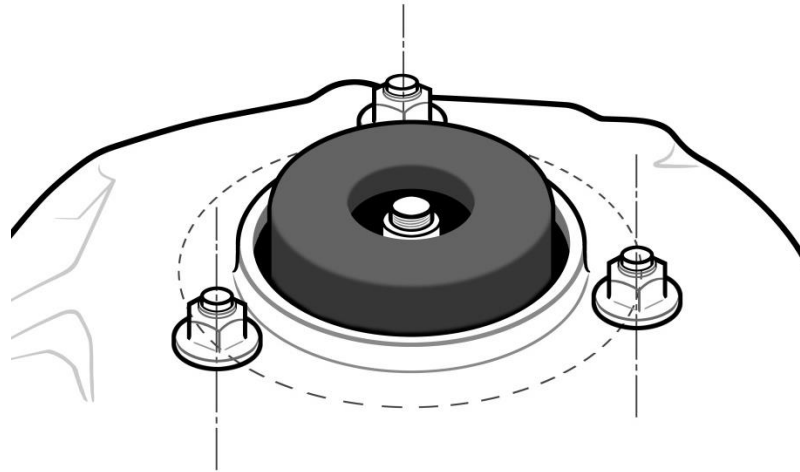

Figure 6
- F. Refer to Figures 6 and 7.